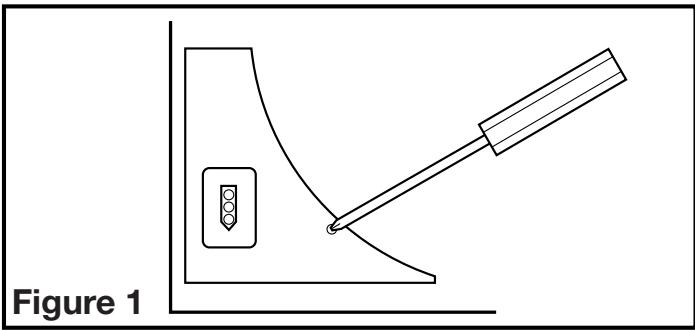

Figure 1
2. Remove the wire compartment cover and store in the carton until needed so it does not get damaged or lost (**Figure 1**).